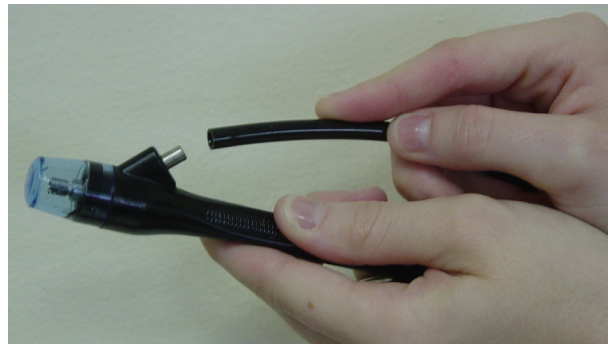

Figure 7: Connect Vacuum Tubing to Handpiece
- b. Slide the black or blue vacuum tube over the vacuum branch tube located on the upper side of the handpiece (see Figure 7).